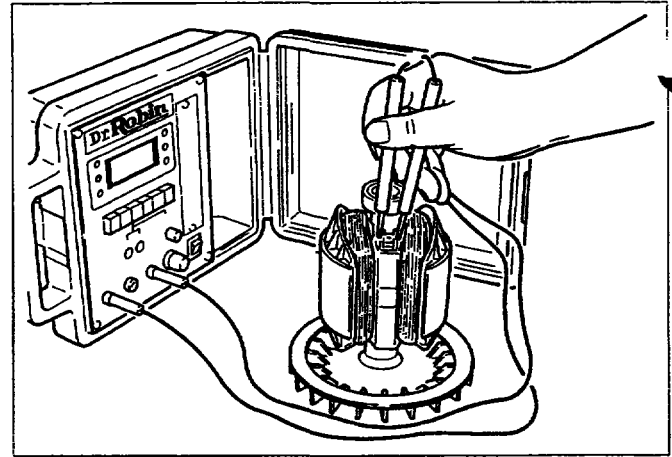

Fig. 11-3
2) Measure the resistance of field coil with a circuit tester. (See Fig. 11-3.)